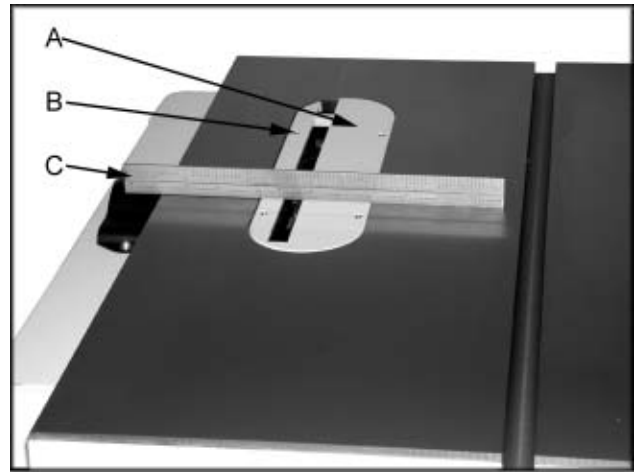

Fig. 3
1. Adjust table insert (A, Fig. 3) flush with table by turning four leveling screws (B, Fig. 3).
2. Use a straight edge (C, Fig. 3) to make sure the insert is flush with the table.